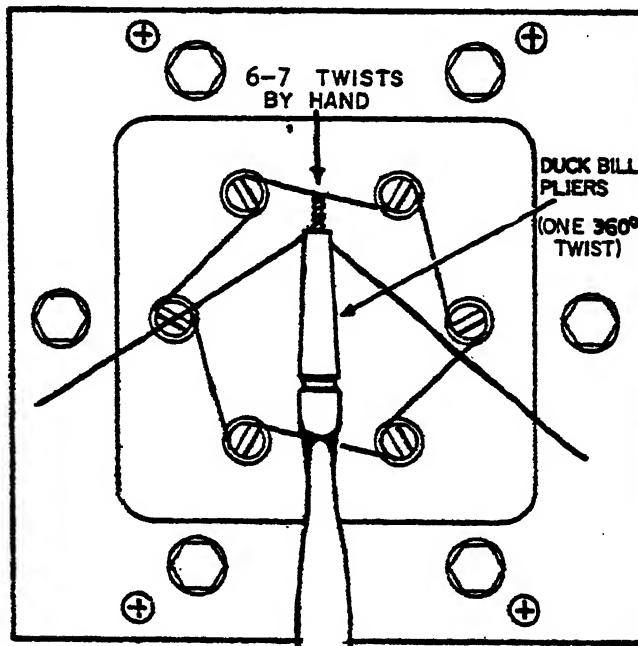

FIGURE 18
* (1) Keep twists uniform.
* (2) Do not wrap one wire around the other.
* (3) Finger tips should NOT be any farther than 6 inches from screwheads as twists are made.
STEP 6: Grasp the wire with duckbill pliers on the last twist; give one 360° twist. See figure 18.